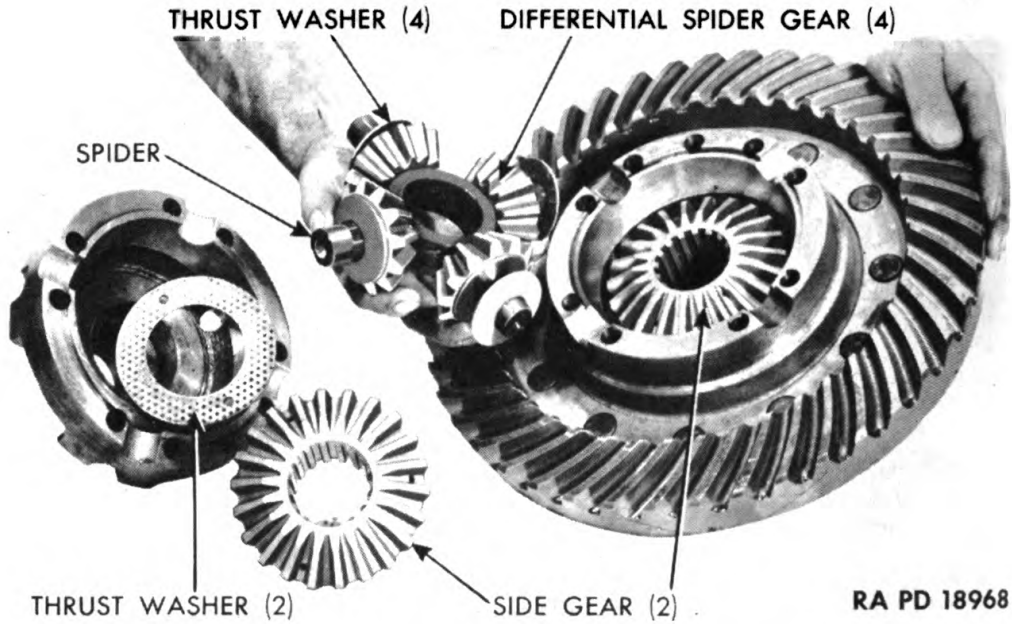

Figure 49 — Removing Differential Spider and Gears
(6) **REMOVE DIFFERENTIAL SPIDER AND SPIDER GEARS.** Remove spider, with four spider gears and four thrust washers, from case (fig. 49). Remove remaining side gear and thrust washer.